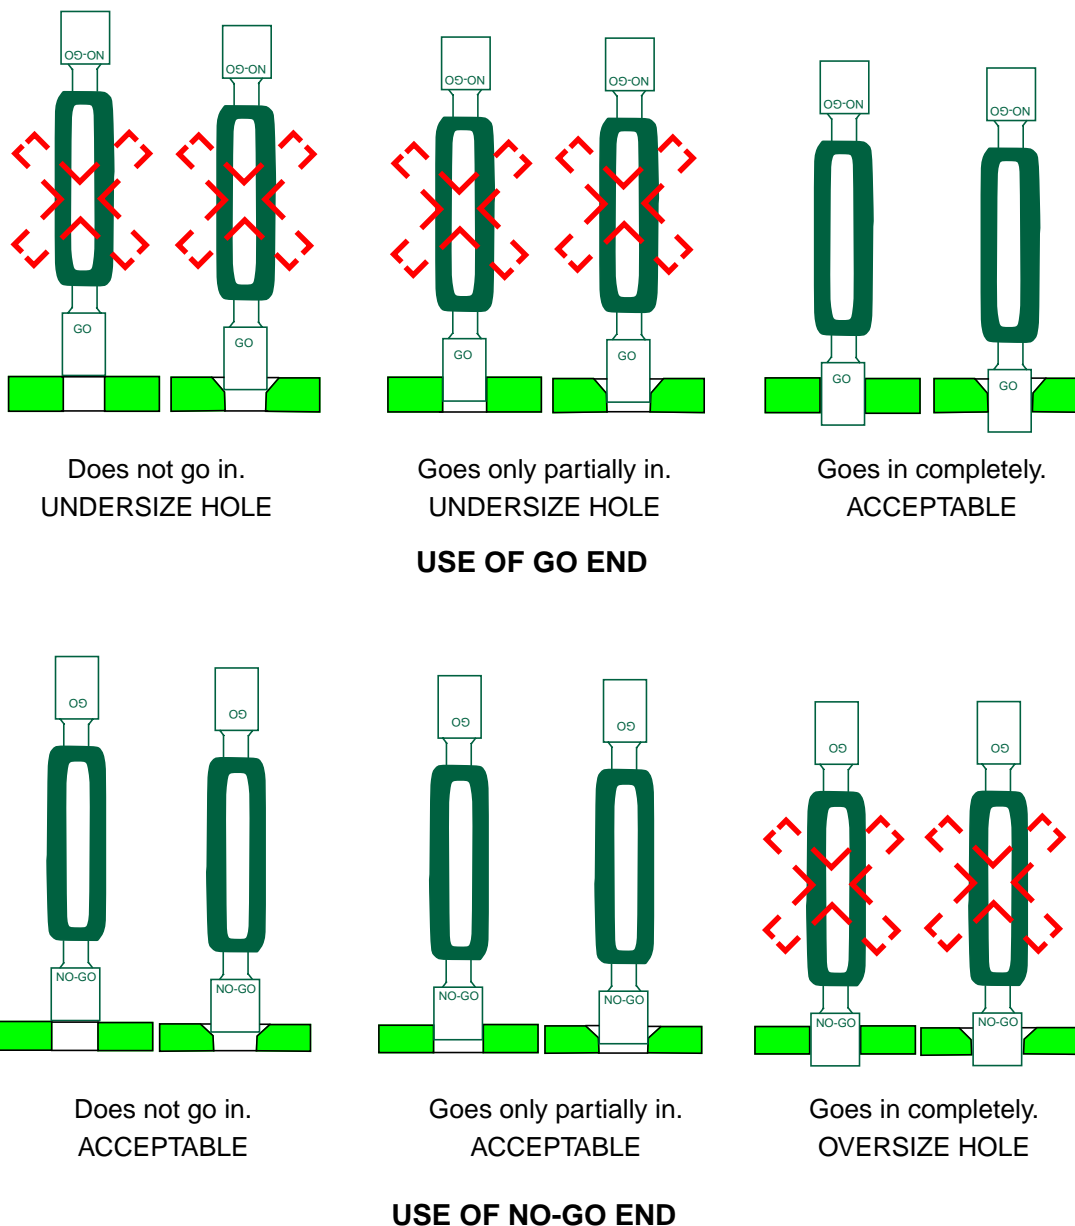

Figure 9 - Use of Go/No-Go Gauges
- 5.3.1 Check selected fastener holes for conformance to the requirements of Table 4 using the applicable go/no-go gauge as follows (see Figure 9):